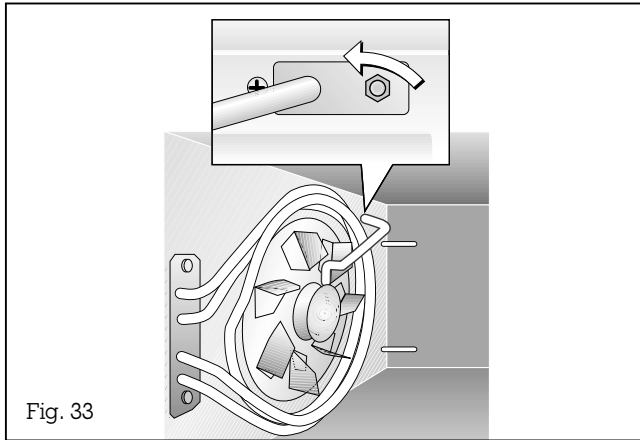

Fig. 33
- Dismantle the inlet pipe by first removing the nut (8 mm) and by then pulling the inlet pipe out of the mount (Fig. 33).